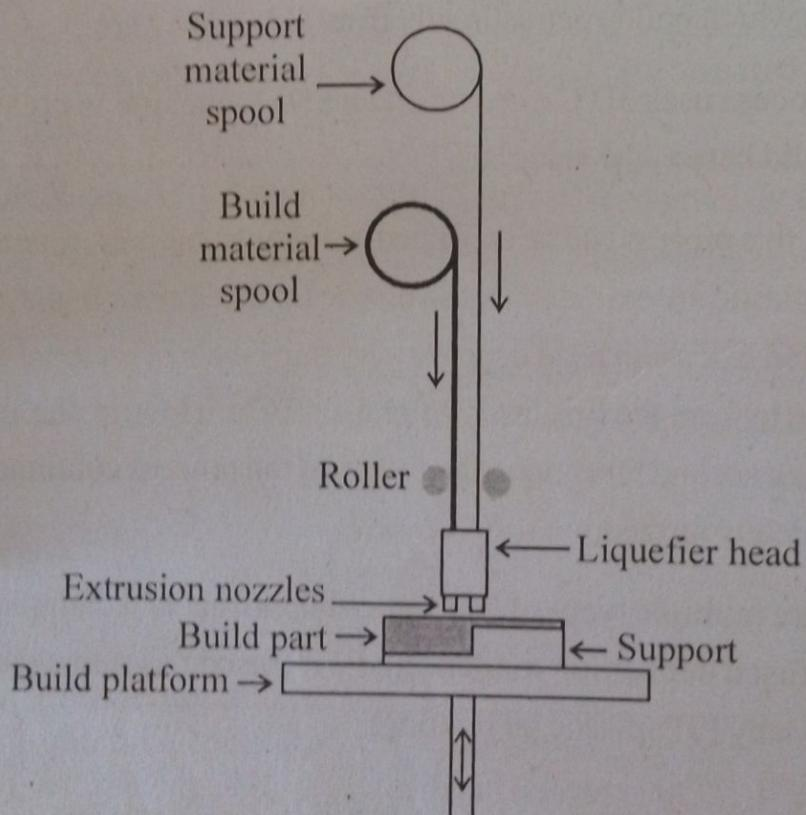

Figure 3.7 Schematic system of FDM process
- ✓ Figure 3.7 is an illustration of the FDM process.